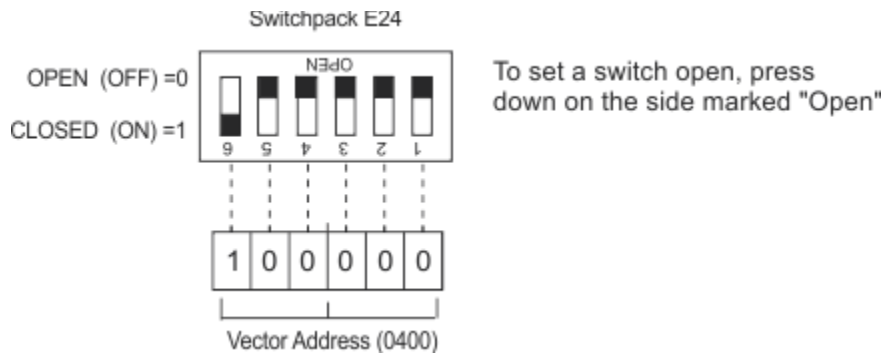

Figure 1-3: DCQ-2400 Vector Address Format
- Figure 1-3: DCQ-2400 Vector Address Format 5
Vector addresses 0-1774₈ are reserved for Qbus system users. The DCQ-2400 is assigned vector address 0400₈. Use switchpack E24 to select the interrupt vector address for the DCQ-2400 as shown in Figure 1-3.